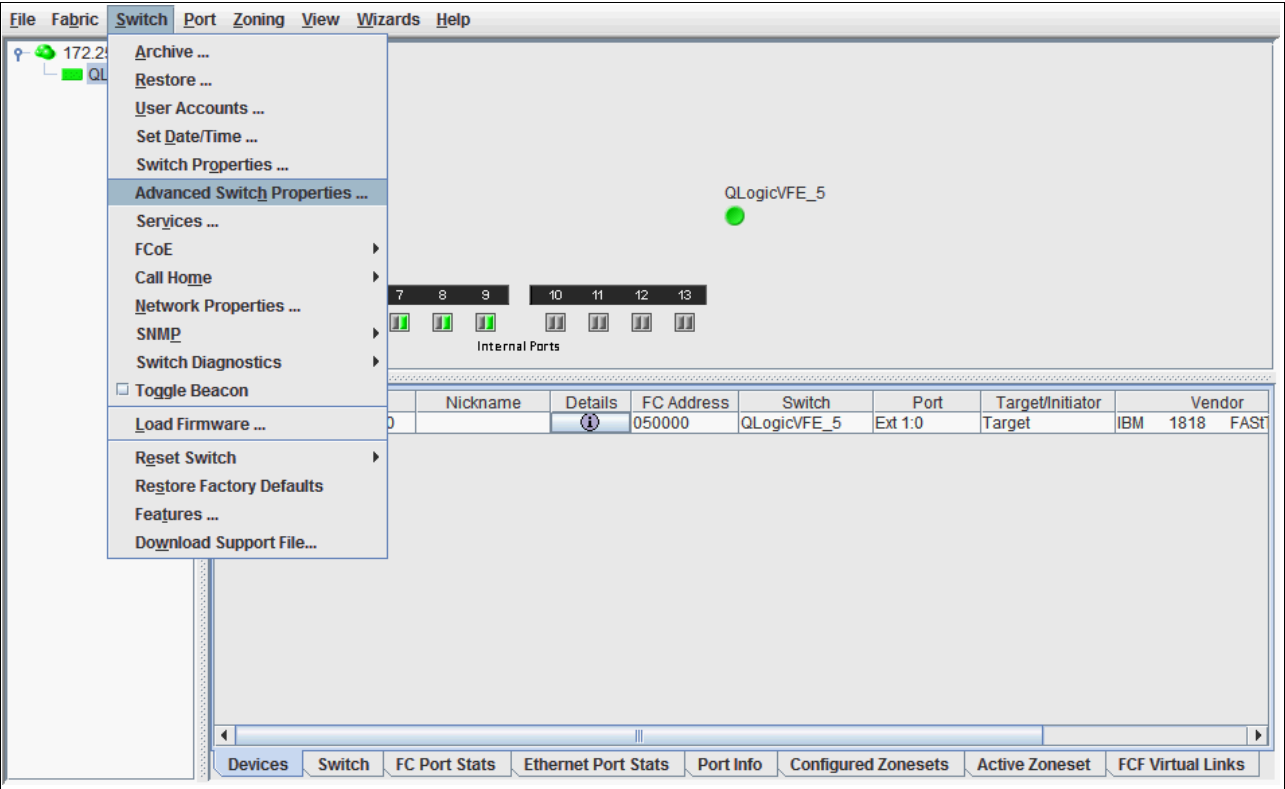

Figure 10-8 Virtual Fabric Extension Module GUI
1. In the main window of the Virtual Fabric Extension Module GUI (Figure 10-8), select **Switch → Advanced Switch Properties**.